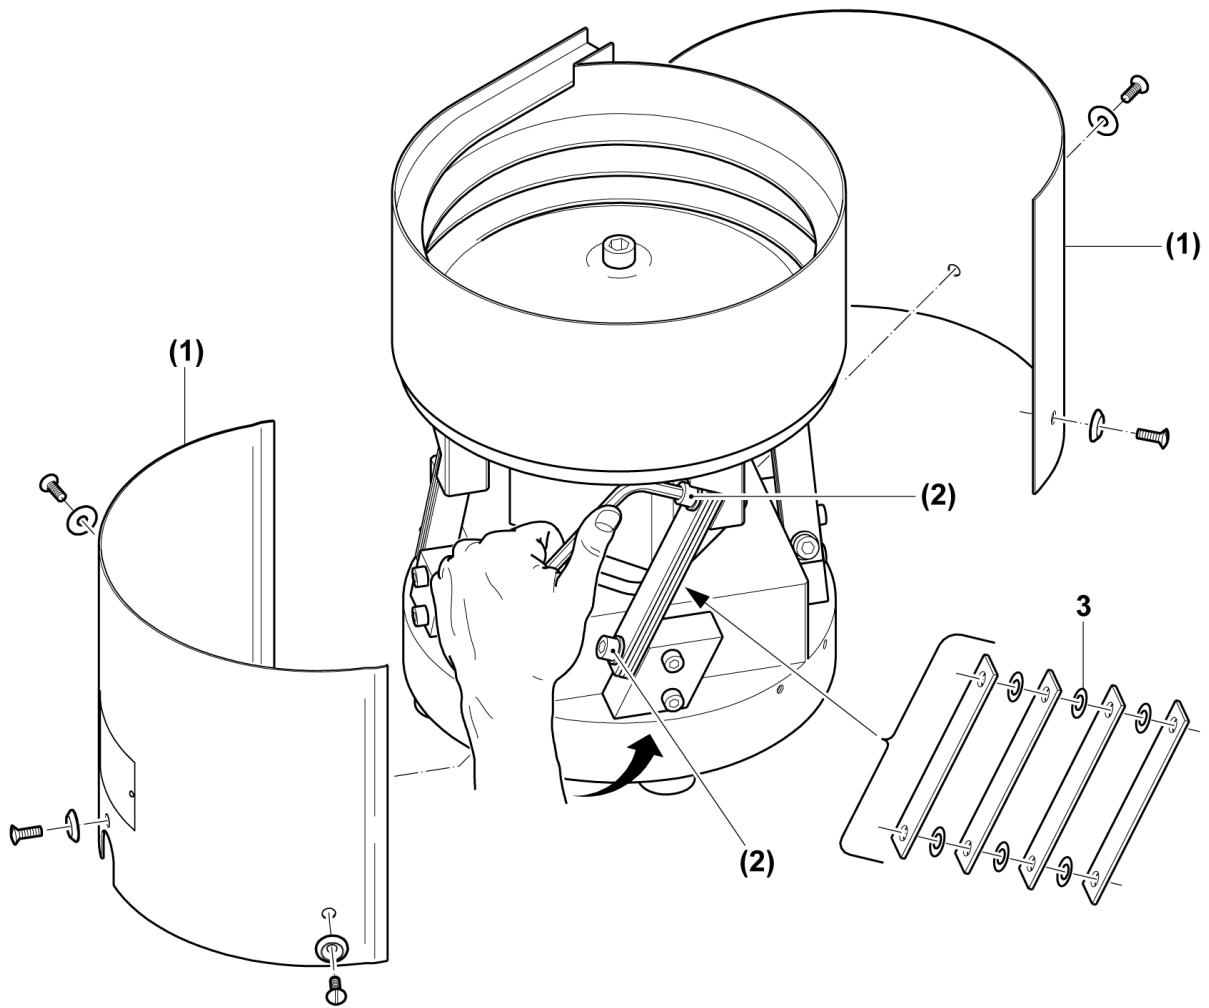

Figure 15
(See Figure 15)
1. Remove the casing (1) (see Figure 15)
2. Remove the screws (2) from the spring package to be replaced